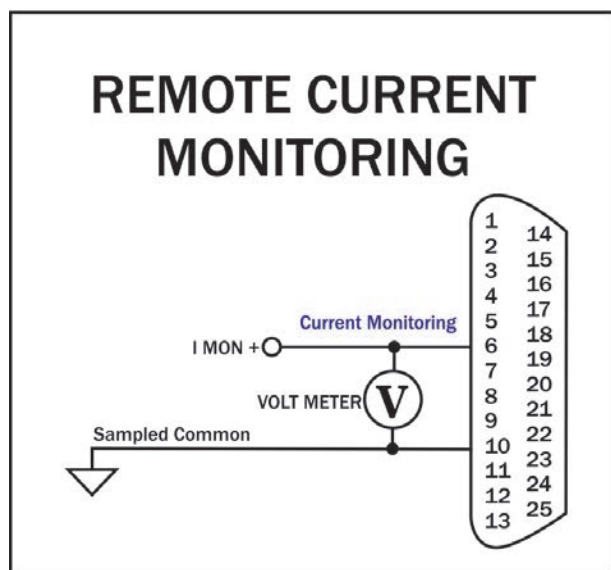

Figure 6.13 – Remote Current Monitoring
**Method:** Connect a voltage meter to monitor the output current being produced by the amplifier. Connect across PIN 6 (I MON+) and PIN 10 (Sampled Common). See **Figure 6.13**.